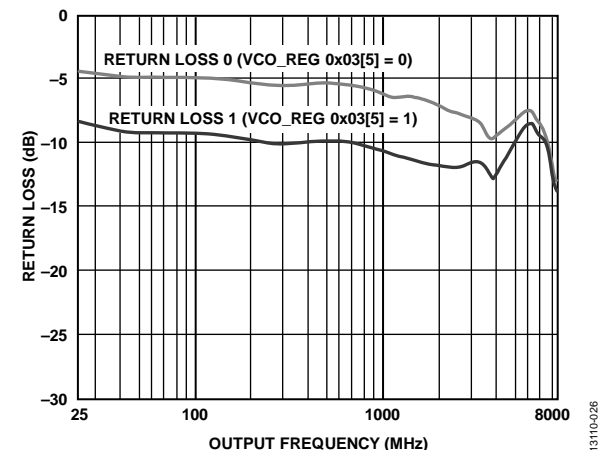

Figure 26. RF Output Return Loss
- Output return loss setting (VCO\_REG 0x03[5]). See Figure 26 for more information.